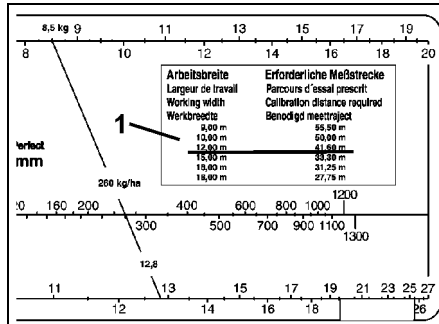

Fig. 32
- Take the test distance (41.6 m) required for the desired working width (12 m) from the table (Fig. 32/1) of the Nomogram.